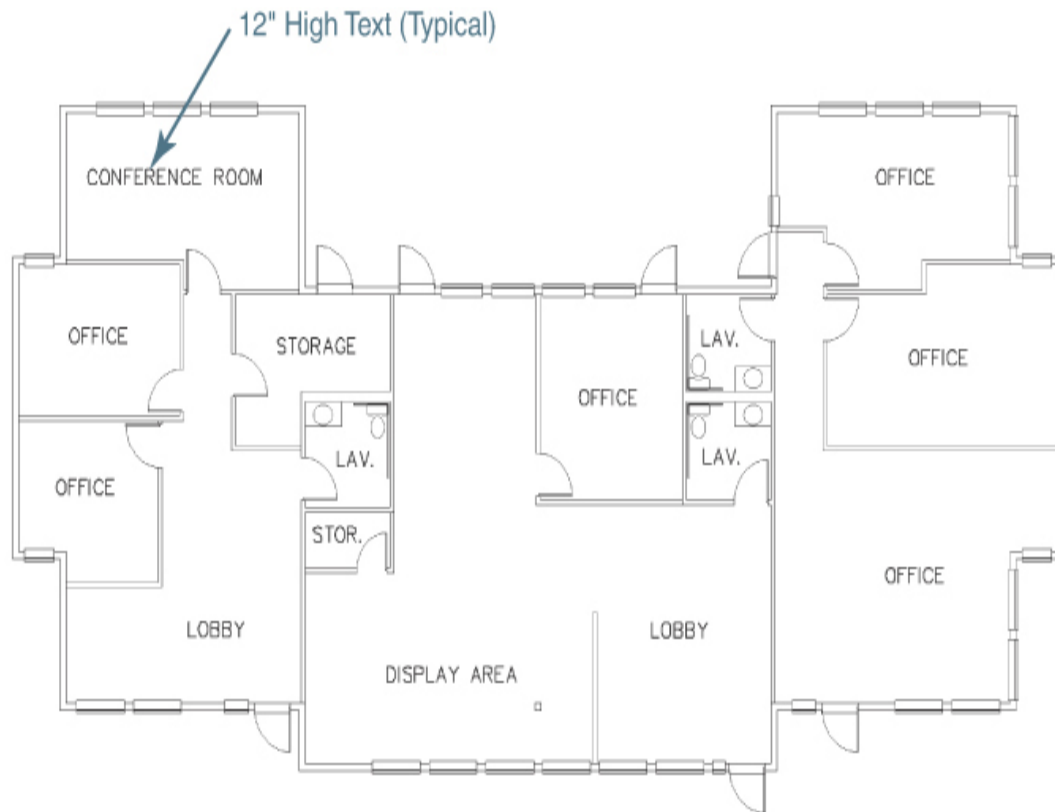

Figure 14-36
- 8 Create the text shown in Figure 14-36 using the **Center** justification option.